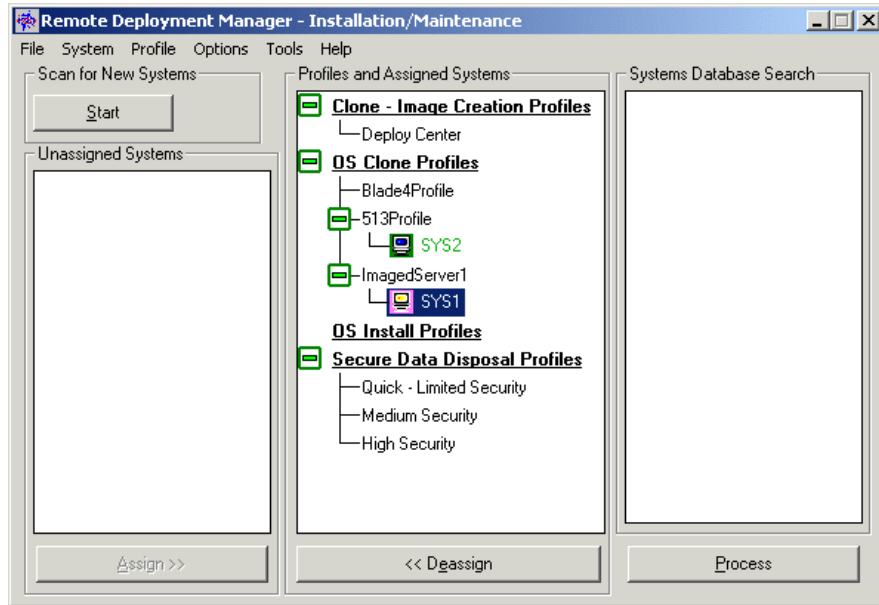

Figure 5-17 Executing the deployment
20. Click **No**. You will see a window similar to the one shown in Figure 5-17.